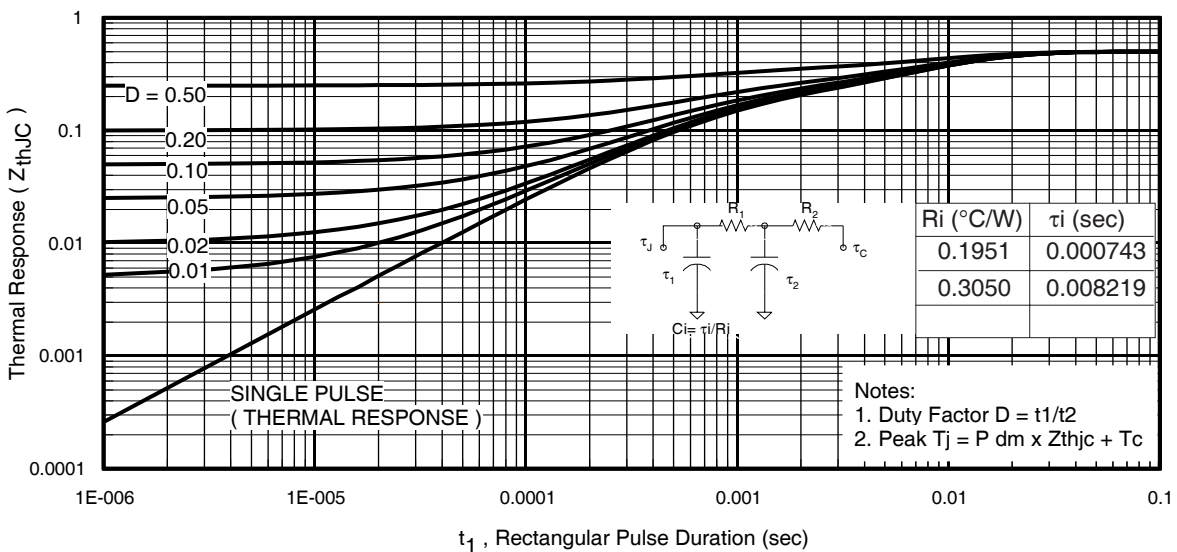
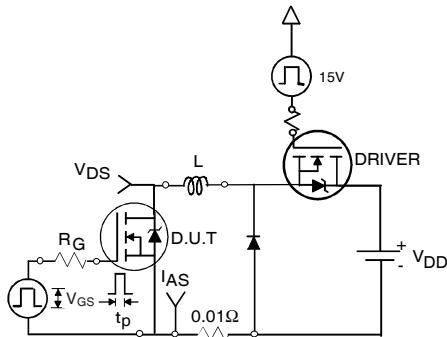

Fig 11. Maximum Effective Transient Thermal Impedance, Junction-to-Case
Fig 12a. Unclamped Inductive Test Circuit
| I_{AR} | Avalanche Current ① | See Fig.12a,12b,15,16 | A |
- ① Repetitive rating; pulse width limited by max. junction temperature. (See fig. 11).
- ② Limited by T_{Jmax} , starting $T_J = 25^\circ\text{C}$, $L = 0.049\text{mH}$, $R_G = 25\Omega$, $I_{AS} = 160A$, $V_{GS} = 10V$. Part not recommended for use above this value.
- ③ Pulse width $\leq 1.0\text{ms}$; duty cycle $\leq 2\%$.
- ④ $C_{oss\text{ eff.}}$ is a fixed capacitance that gives the same charging time as C_{oss} while V_{DS} is rising from 0 to 80% V_{DSS} .
- ⑤ Limited by T_{Jmax} , see Fig.12a, 12b, 15, 16 for typical repetitive avalanche performance.
- ⑥ This value determined from sample failure population. 100% tested to this value in production.
- ⑦ This is applied to D²Pak, when mounted on 1" square PCB (FR-4 or G-10 Material). For recommended footprint and soldering techniques refer to application note #AN-994.
- ⑧ R_{θ} is measured at T_J of approximately 90°C .
3. Equation below based on circuit and waveforms shown in Figures 12a, 12b.
$Z_{thJC}(D, t_{av})$ = Transient thermal resistance, see figure 11)